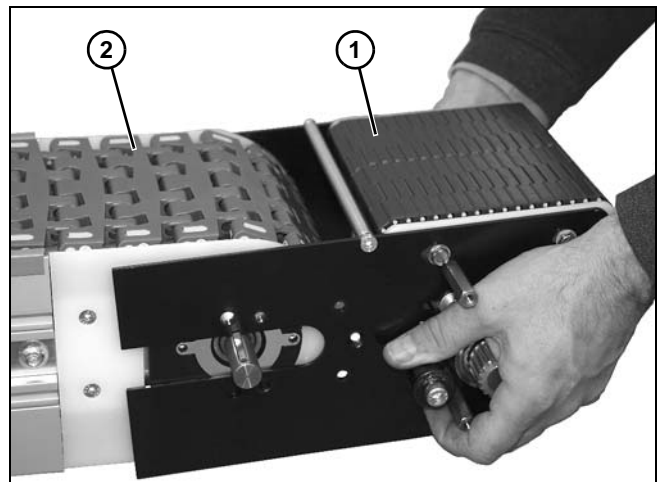

Figure 143
11. Install power transfer tail (**Figure 143, item 1**) onto frame (**Figure 143, item 2**).